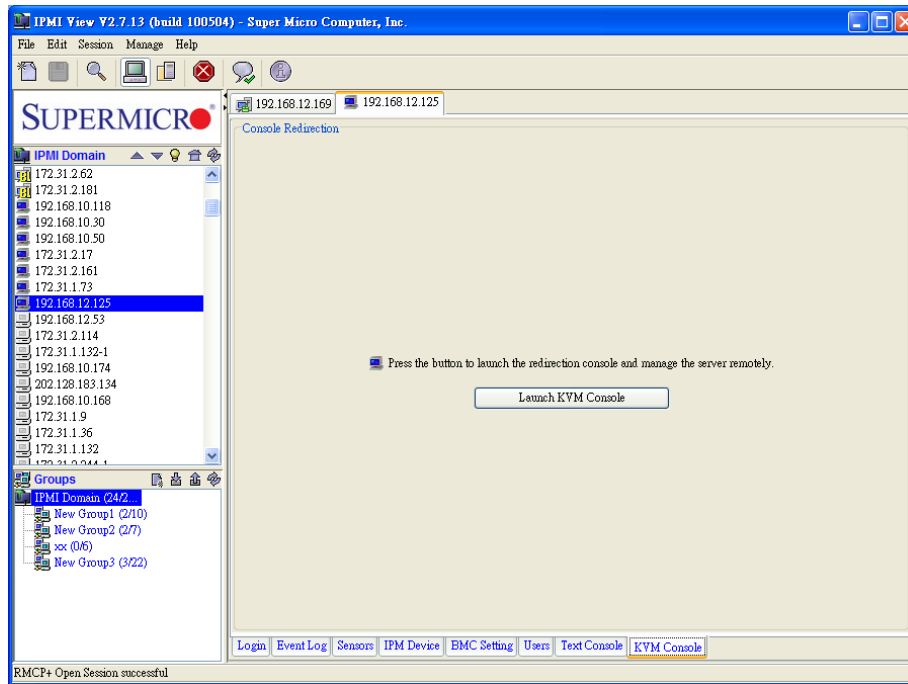

Figure C-1
Press <Launch KVM Console> to open SIM(WA) iKVM Window as in Figure C-1.